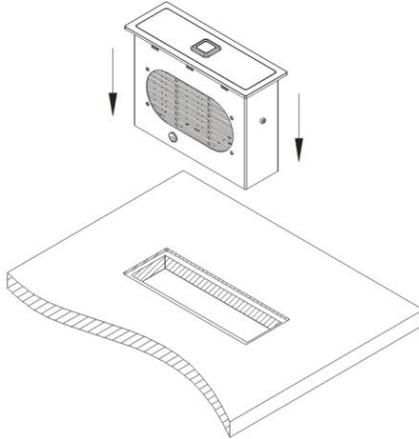

Fig. 5 – Install Source Capture[®] Vent
- 5.5 Install the Source Capture[®] Vent in the table by inserting it into the cut-out, as shown in Fig. 5.